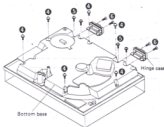

Fig. 2
2. Remove the 4 setscrews (Fig. 2 : ⑤) of the hinge case bracket.
3. Remove the 4 setscrews (Fig. 2 : ⑥) of the hinge case.